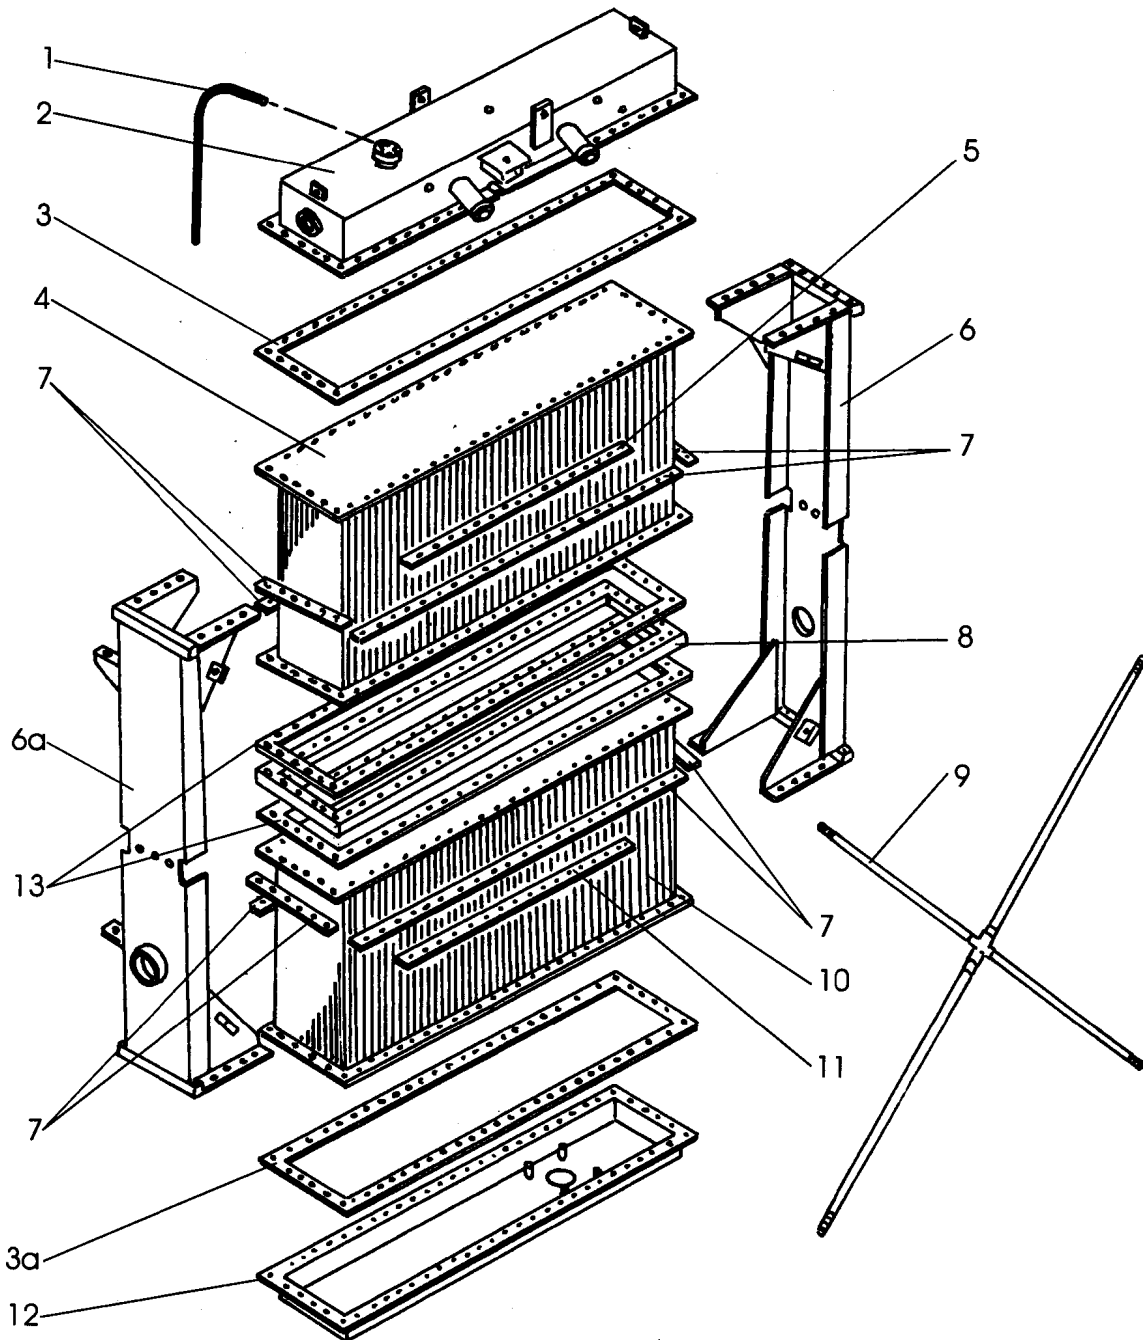

Fig. 2.6. Radiator Exploded View
9. REASSEMBLY (Refer to Fig. 2.6)